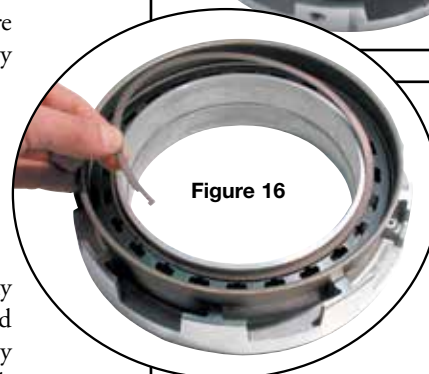

Figure 16
- With Sonnax snap ring end installed in groove, work the rest of the ring into groove one wrap at a time (Figure 16).